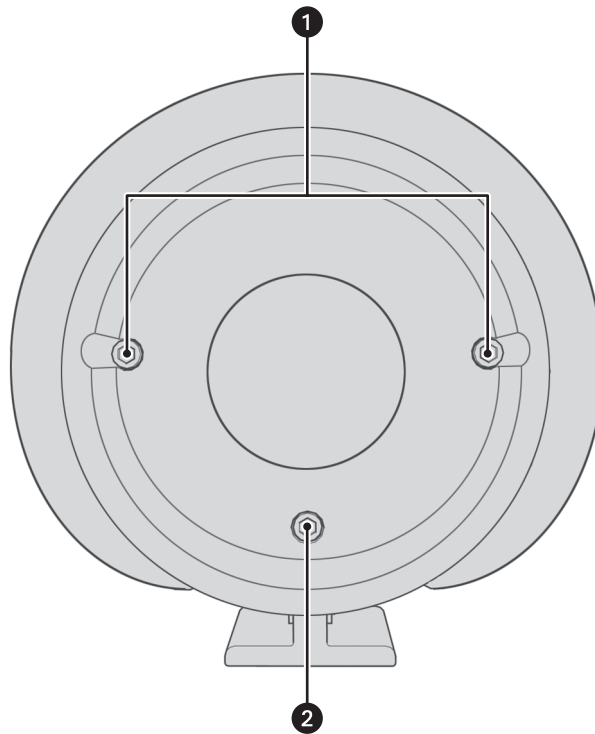

Figure 3. Removing Screws from Front of Enclosure
4. Use the supplied 5/64-inch hex wrench to remove the two screws on the enclosure's front plate, as shown in Figure 3. Do not loosen the third screw.
4. Use the supplied 5/64-inch hex wrench to remove the two screws on the enclosure's front plate, as shown in Figure 3 on page 9. Do not loosen the third screw.